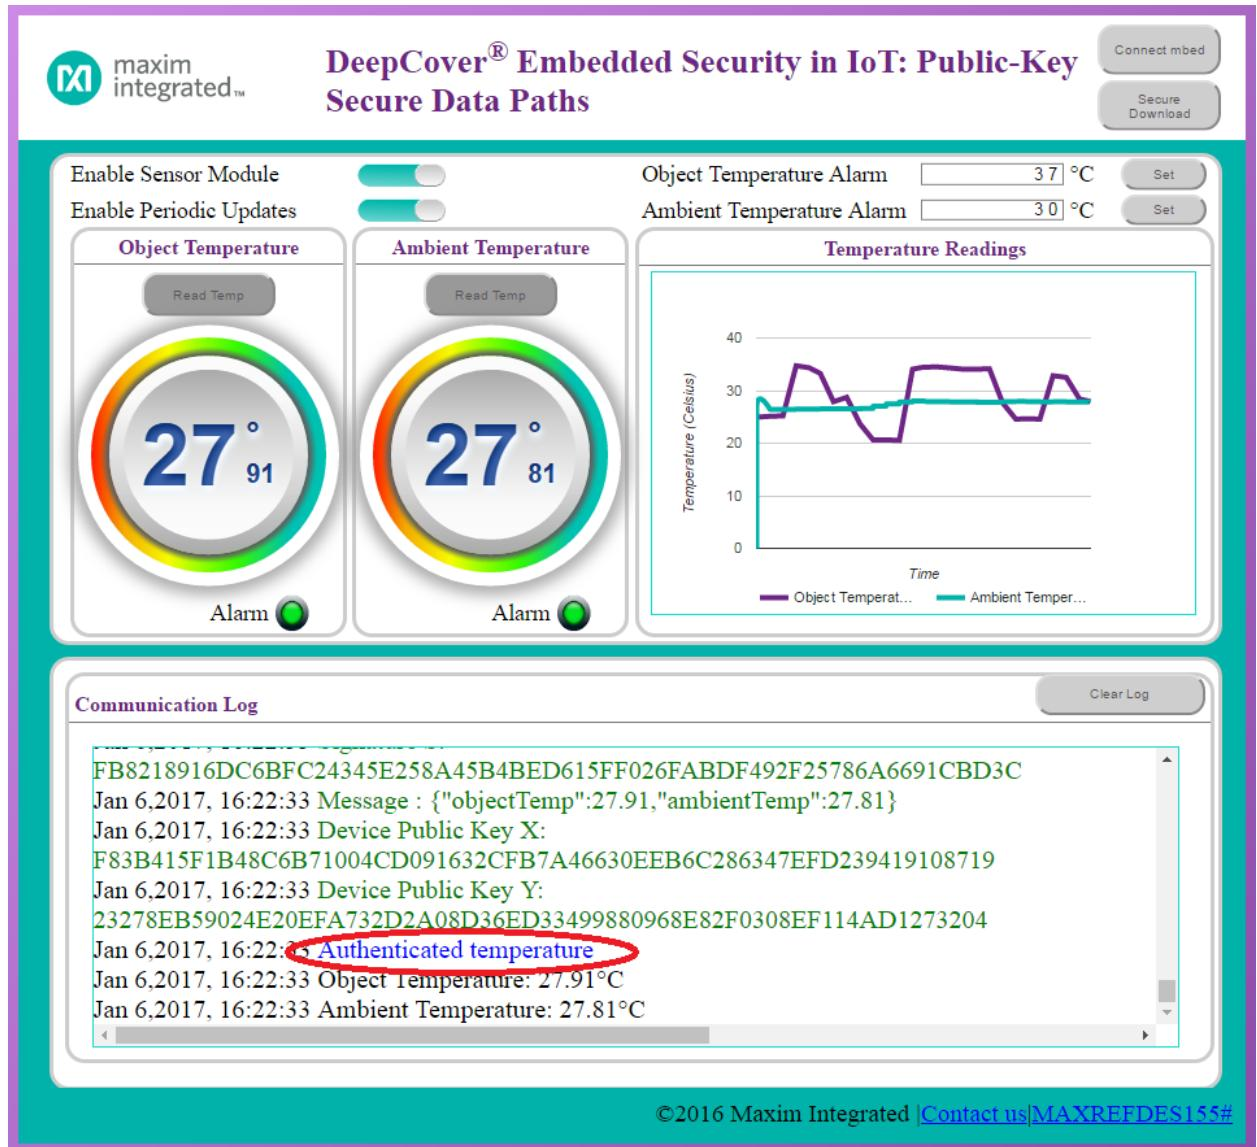

Figure 14. An Authenticated temperature reading with history graphed.
| Figure 14. An Authenticated temperature reading with history graphed..... | 13 |
3. Slide the **Enable Periodic Updates** and this continually requests and receives an authenticated temperature reading while graphing a log of the results in the **Temperature Readings** panel. The increments of the temperature readings occur every five seconds. Each reading can be verified to be authentic as listed in the **Communication Log** panel as shown in Figure 14.